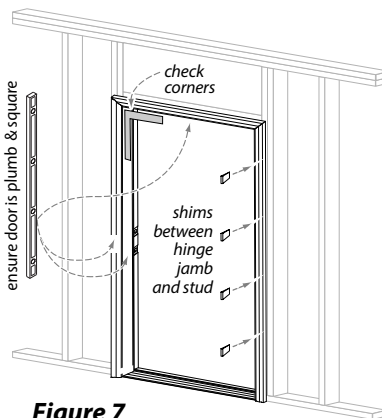

Figure 7
- From the outside, tilt the entire door frame into the center of the opening. With wood shim behind the predrilled hole in the hinge jamb, install middle screw on hinge side through the jamb into the stud (figure 7). Repeat other hinge-side screws, maintaining level in both vertical and front to back planes (plumb). Note if walls are not vertical, exterior brickmold trim may not touch in all areas. **Do NOT attempt to flush trim against exterior wall as this could result in poor door performance.**